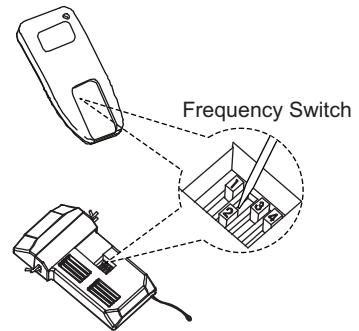

Figure 7
1. This remote control unit is equipped with 16 code combinations to prevent possible interference from or to other remote units. The frequency switches on your receiver and transmitter have been preset at the factory. Please recheck to make sure the switches on the transmitter and the receiver are set to the same position, any combination of settings will operate the fan as long as the transmitter and receiver are set to the same position. (Fig. 7)